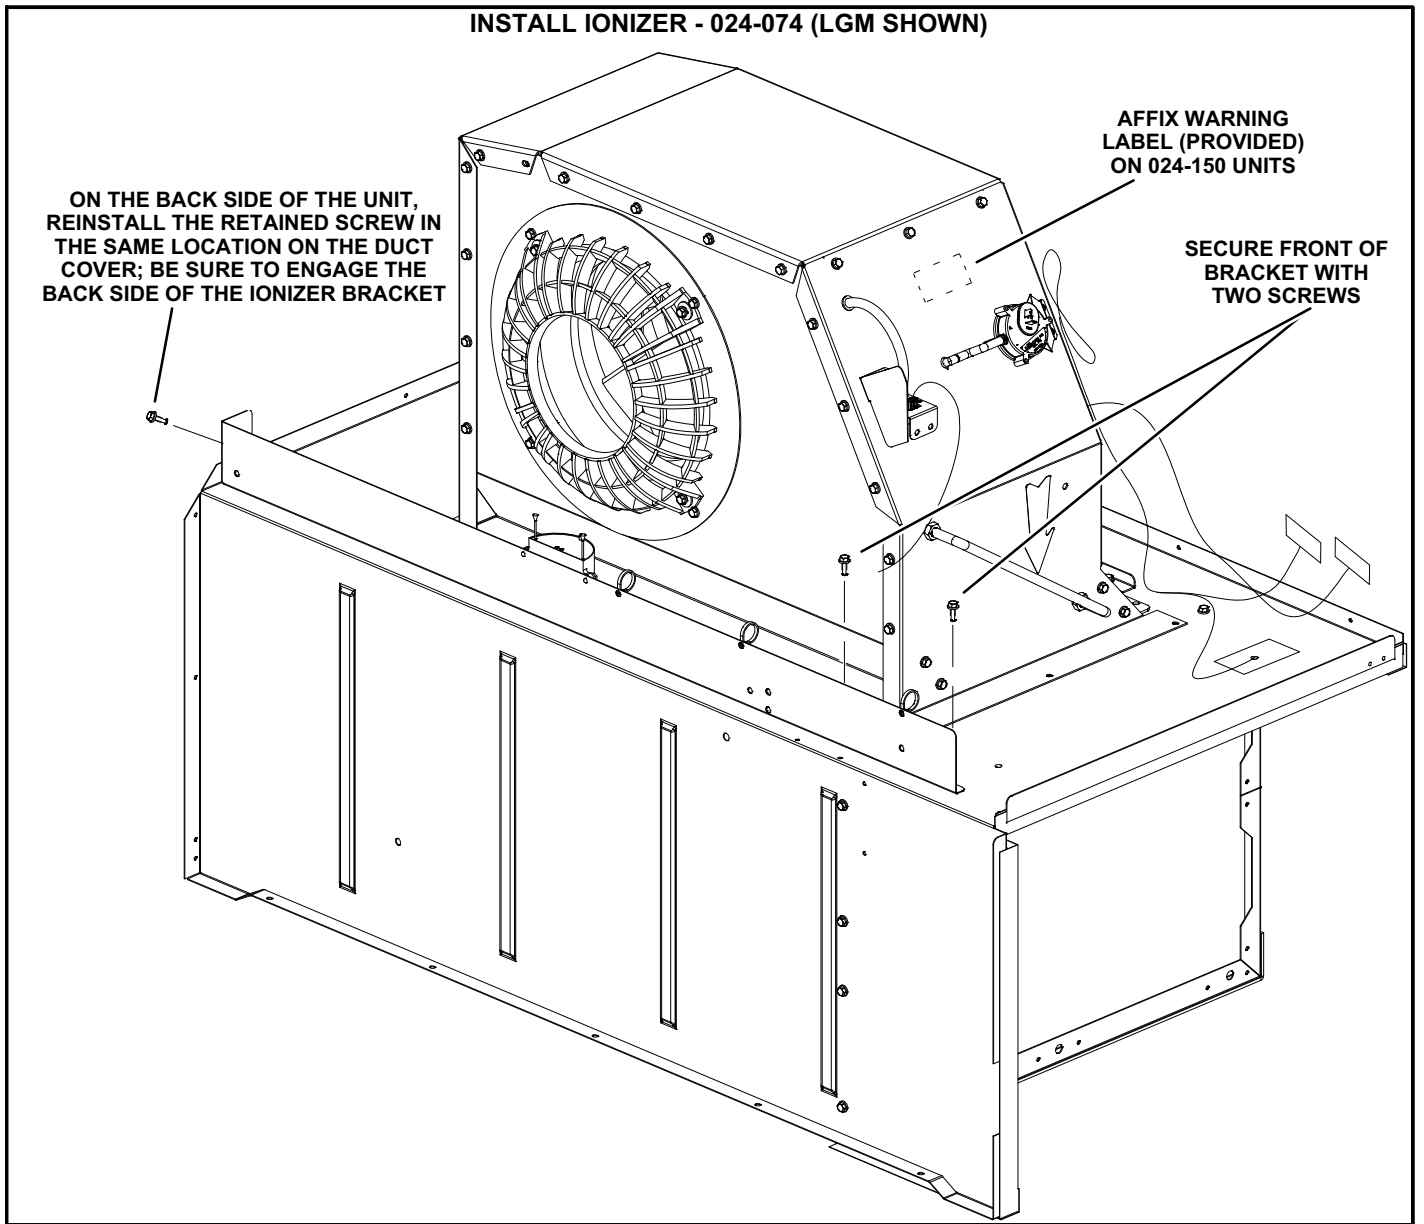

FIGURE 2
Affix warning label, provided in kit, in location shown in figure 2 for 024-150 units and figure 11 for 156-300 units.
- 2- Install ionizer assembly on the blower deck to the left of the blower housing; secure with two provided screws. See figure 2.
- 3- On the back side of the unit, reinstall the retained screw engaging the back side of the ionizer bracket. See figure 2.